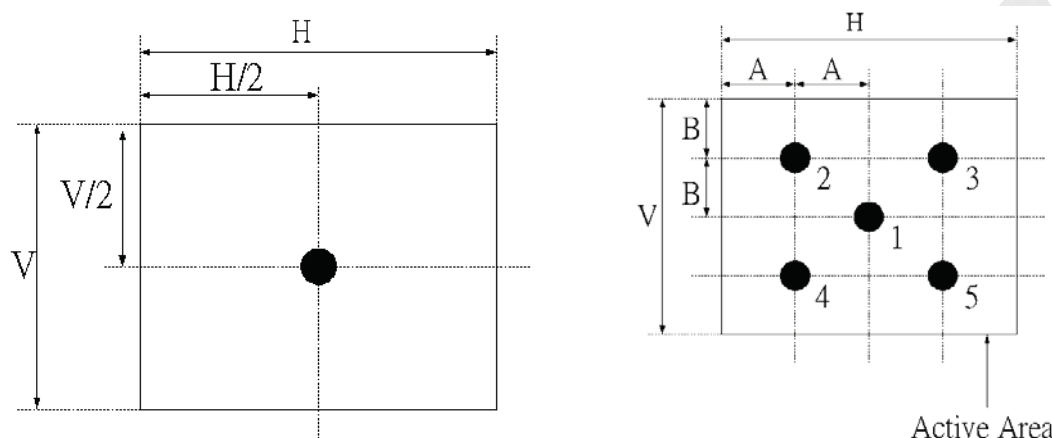

Fig.4-2 Optical measurement point
2. Surface luminance is luminance value at point 1 across the LCD surface 50cm from the surface with all pixels displaying white. From more information see FIG 4-2. When $I_{BL} = 4.5\text{mA}$, $L_{WH} = 500\text{cd/m}^2$ (typ.) $L_{WH} = L_{on1}$, Where L_{on1} is the luminance with all pixels displaying white at center 1 location.